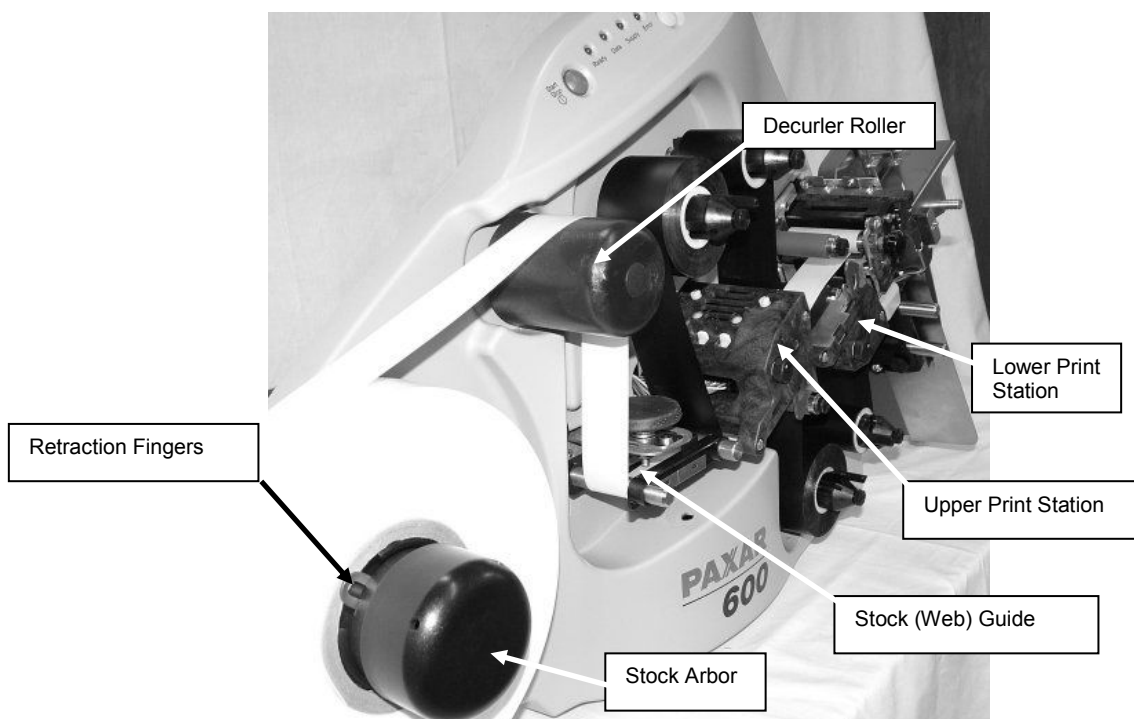

Figure 9. Stock Supply Through Print Stations
Before loading a roll of stock, you will need to be familiar with the following parts of the AVERY DENNISON SNAP 600 printer (Refer to Figures 9 and 10).
4. Slide the stock supply roll onto the Stock Arbor (see Figure 9).